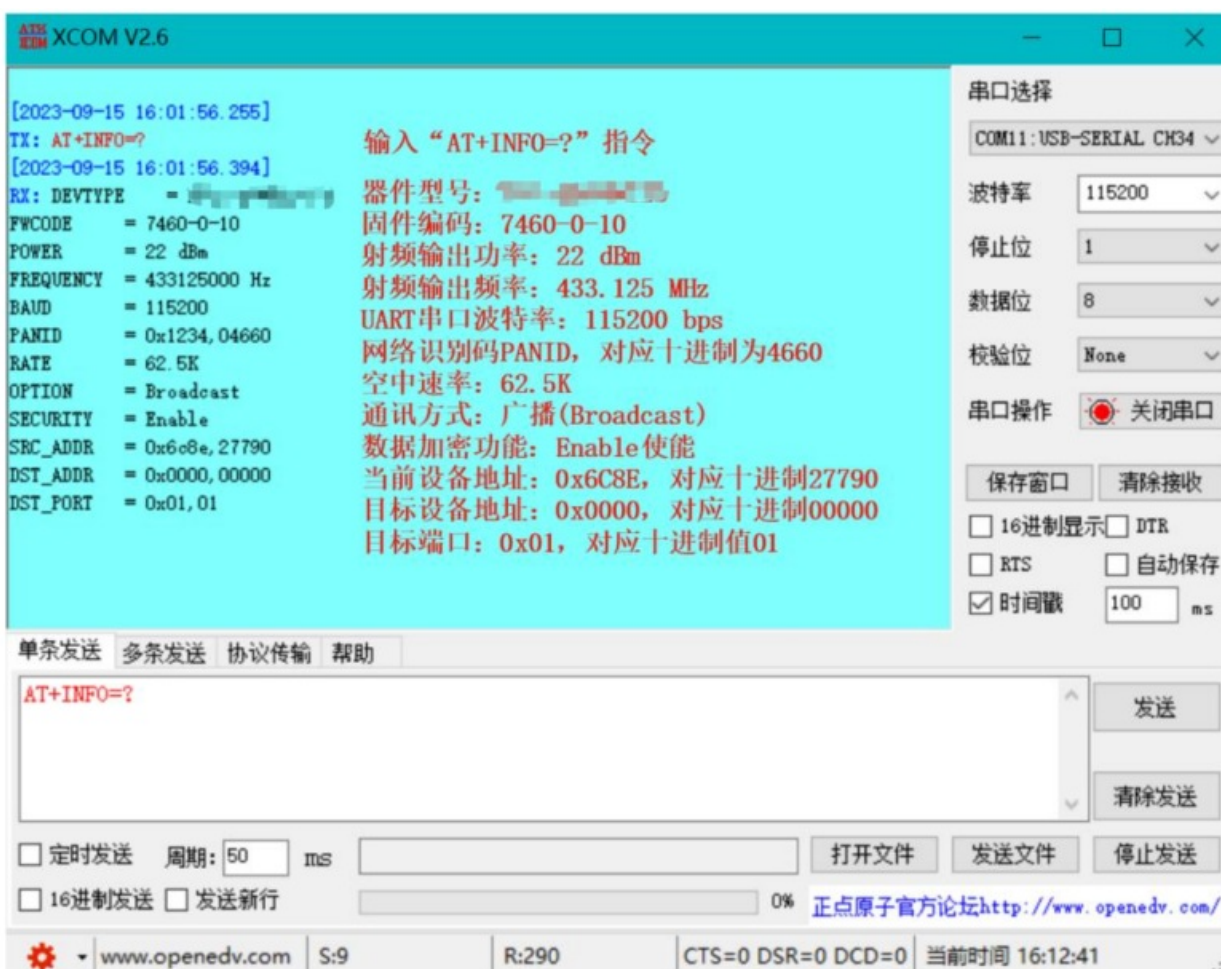

Figure 8.1.1 AT+INFO=? command
- The main parameters of the module can be obtained through the “AT+INFO=?” AT command, which is mainly used for serial port display, as shown in Figure 8.1.1 .